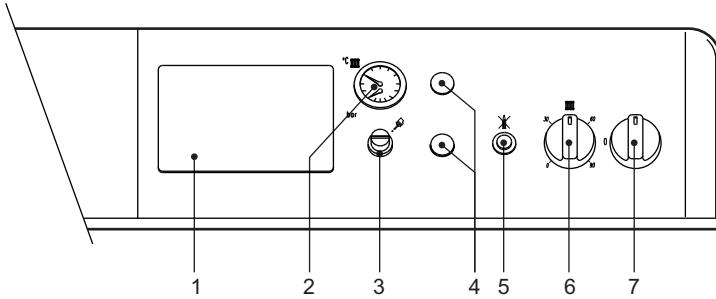

fig. 1 - Control panel
- Turn the boiler switch "7" to 1 (fig. 1).
- If the boiler is equipped with an electronic thermostatic controller fitted in position 1 of fig. 1, the user must also take into account the manufacturer's instructions.
Turn the knob 6 of fig. 1 clockwise to increase the heating water temperature, or anti-clockwise to decrease it. The temperature can be varied from a minimum of 30°C to a maximum of 90°C. However, it is advisable not to operate the boiler below 45°C.
Using the room thermostat, set the temperature required in the rooms. By room thermostat command, the boiler lights and brings the system water to the temperature set by boiler control thermostat 6 of fig. 1. The generator goes off when the required temperature in the rooms is reached.
The filling pressure with system cold, read on the boiler water gauge detail 2 of fig. 1, must be approx. 1.0 bar. If, during operation, the system pressure falls (due to the evaporation of gases dissolved in the water) to values below the minimum described above, the user must bring it to the initial value by operating the filling cock. At the end of the operation always close the filling cock.